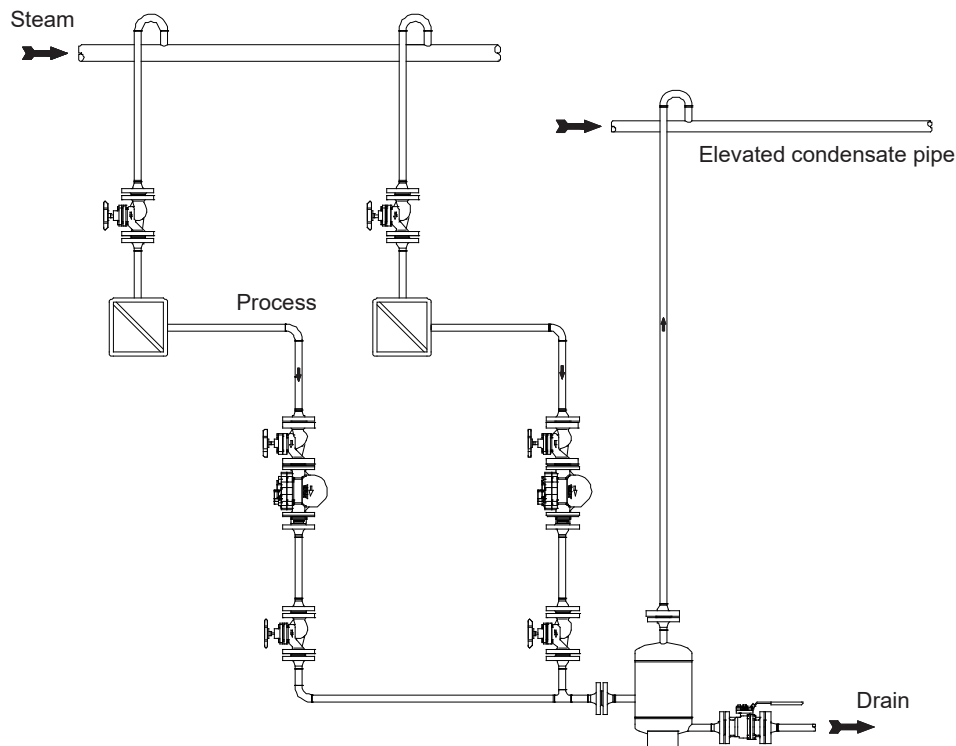

Fig. 1
- Referring to this Installation and Maintenance Instructions (IMI), Information Sheet (IS) and nameplate, check that the product is suitable for the intended installation: temperature, medium, pressure, temperature, etc. – see section 1.2 – Intended use.
- A typical installation is shown in Figure 1.